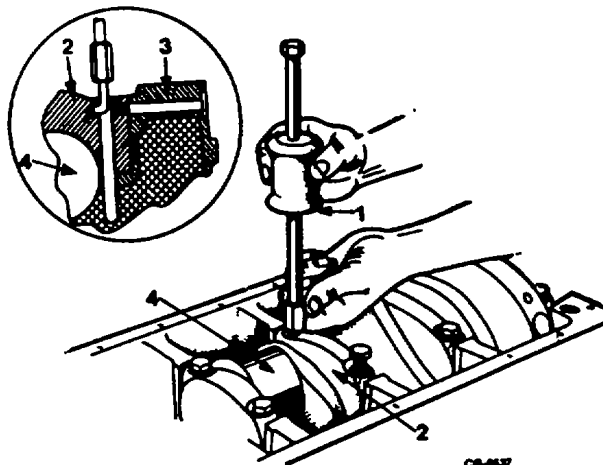

Figure 106. Removing Main Bearing Cap (Numbers 1, 2, 3, and 4)
- 16. Using remover tool SE-2093 and slide hammer SE-1746, remove main bearing caps (numbers 1, 2, 3 and 4) by inserting hook end of remover tool in horizontal hole and toward centerline of crankshaft (Figure 106).